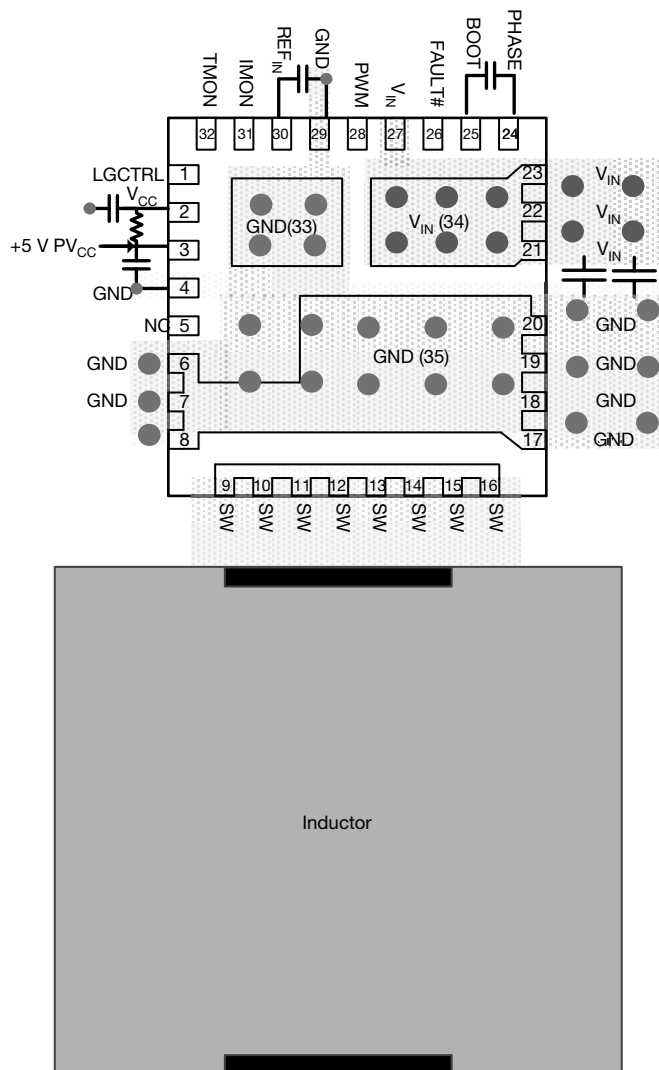

Fig. 16 - Single-Phase PCB Layout for Minimizing Current Loops
- Place multiple 10 μF or greater ceramic capacitors directly at device between V_{IN} and P_{GND} as indicated in Fig. 16 This is the most critical decoupling and reduced parasitic inductance in the power switching loop. This will reduce overall electrical stress on the device as well as reduce coupling to other circuits. Best practice is to place the decoupling capacitors on the same PCB side as the device.
- Place PV_{CC}, V_{CC} and BOOT-PHASE decoupling capacitors at the IC pins as shown in Fig. 16.